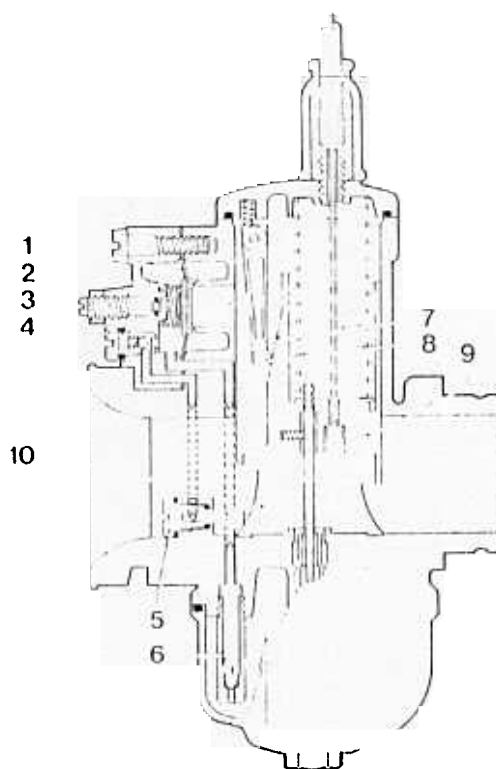

fig. 27
As shown in figure 27, on opening the throttle slide (9), lever (8) controlled by a special cam (7) cast into the front of the throttle slide, acts directly on the pump diaphragm (1), held out by the spring (2).